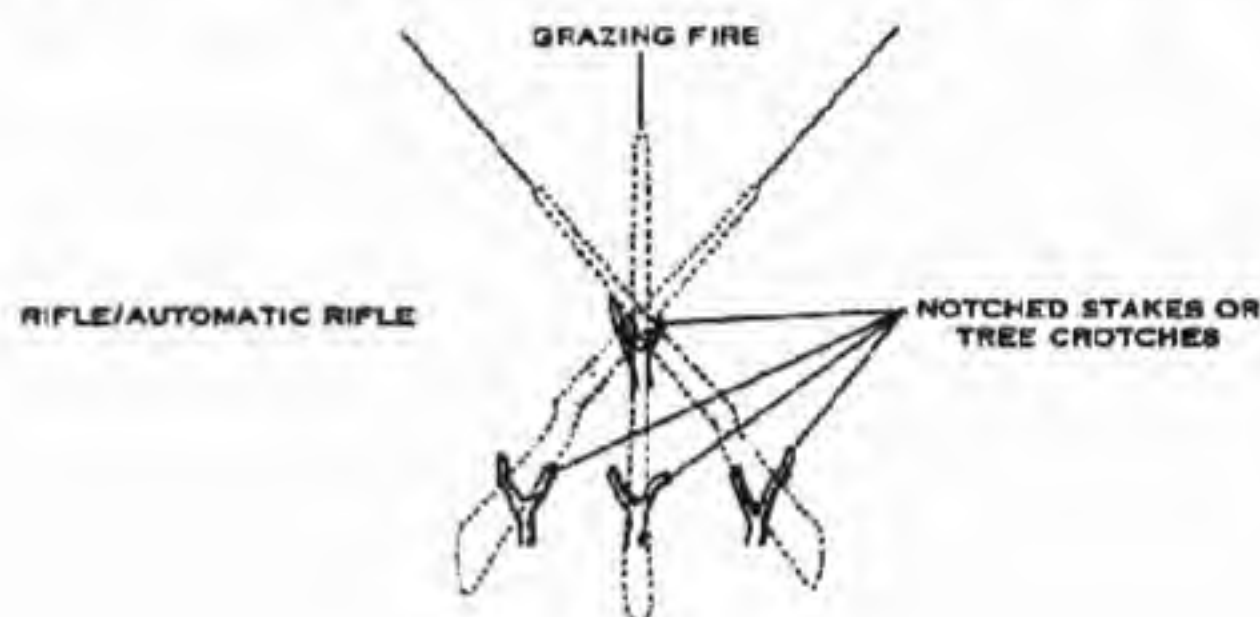

Figure 6
a. **RIFLES AND AUTOMATIC RIFLES.** Preplanned grazing fire can be delivered with rifles and automatic rifles by using field expedients as shown in Figures 6 and 7. The weapon is placed in the rests and zeroed to hit the desired point or cover a sector with grazing fire. The rests are adjusted so that when the weapon is placed in them, it will be pointing in the desired direction and will hold the weapon at the desired elevation. To fire from the rest, the individual places the weapon in the rests with his right shoulder firmly against the butt. He can deliver grazing fire across his sector or at a point target as rapidly as he can manipulate the trigger. He must hold the weapon in the rests in the exact position in which it was held when it was sighted in. By using additional stakes (Figure 6) or a horizontal board or log